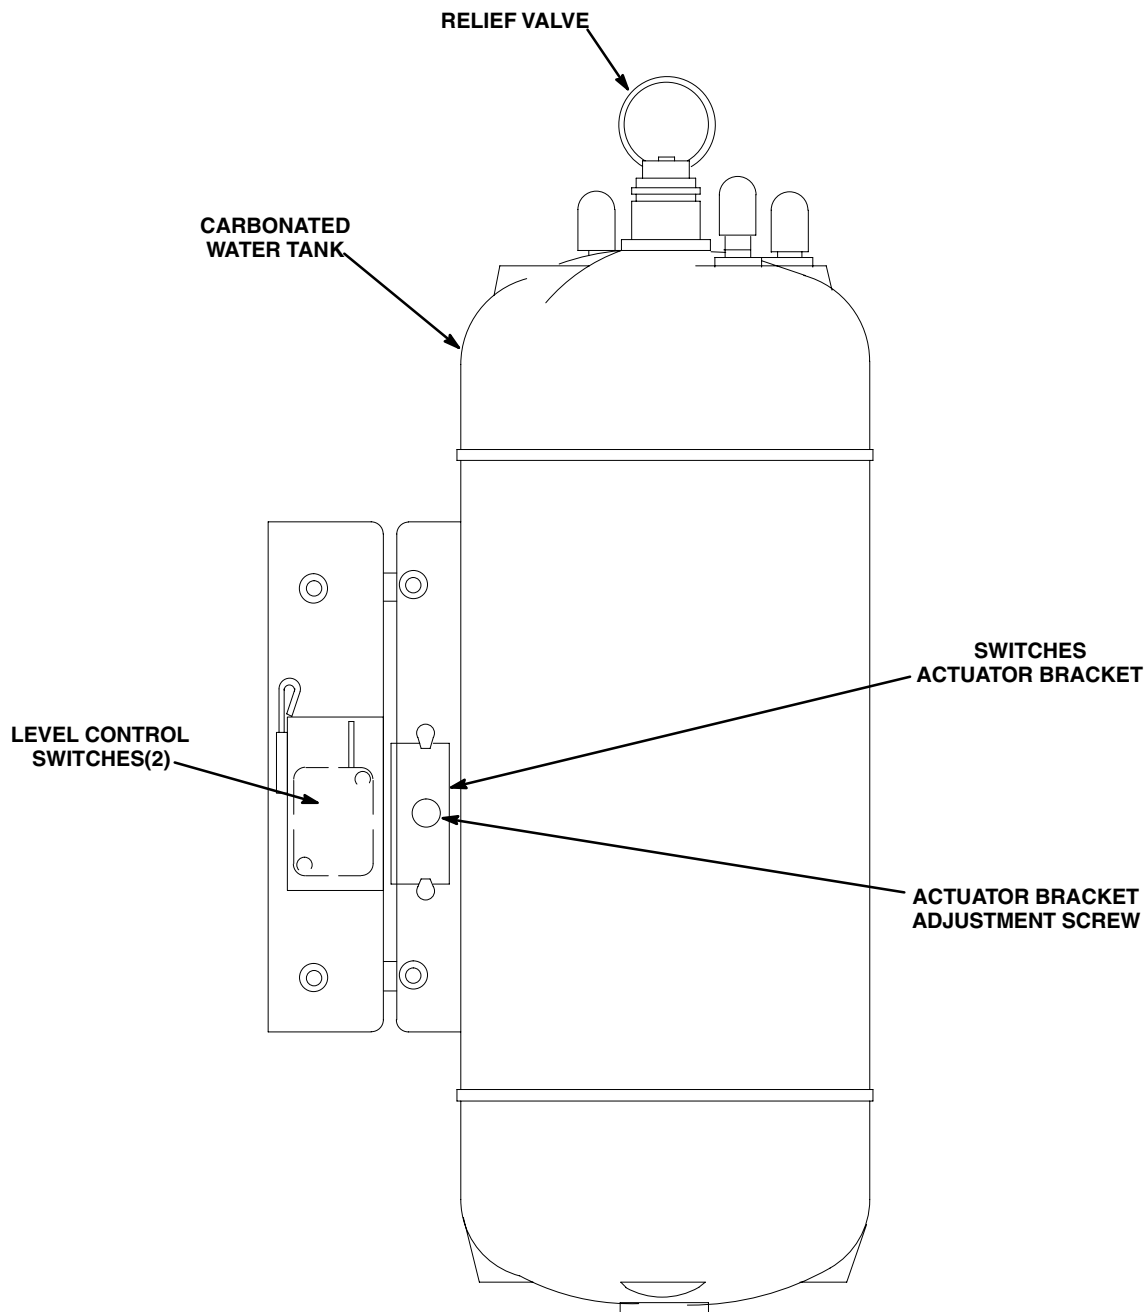

FIGURE 17. CARBONATOR LIQUID LEVEL CONTROL SWITCH ADJUSTMENT
4. If total carbonated water dispensed is below 40 ounces, loosen screw securing level control switches actuator bracket (see Figure 17) and move actuator bracket up slightly. If more than 58 ounces, maximum of carbonated water was dispensed, move actuator bracket down, then tighten screw. **MAKE ADJUSTMENTS IN SMALL INCREMENTS.**